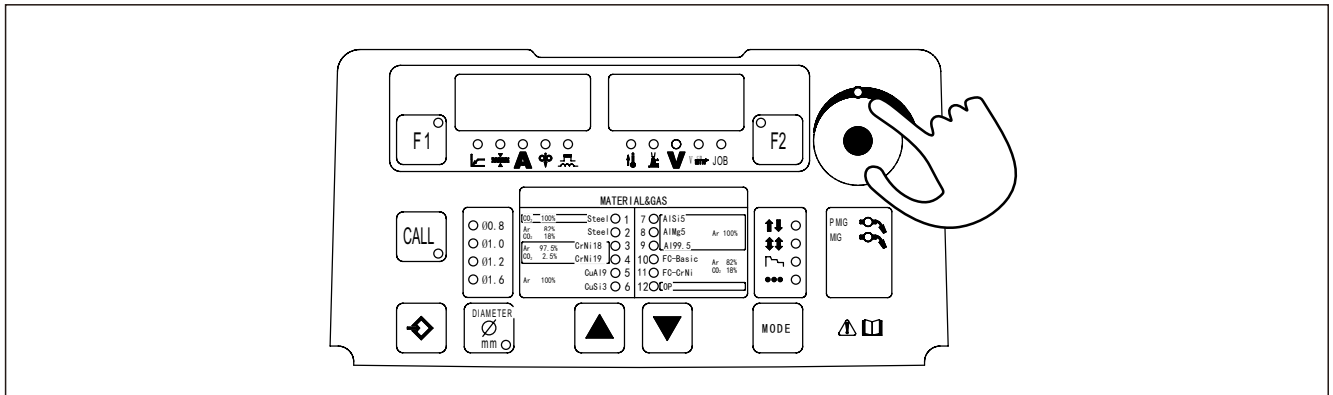

Fig. 4-3-13: Restore the factory setting
Press adjustment knob (1) for about 5 seconds, it comes back to factory set (see Fig. 4-3-13).